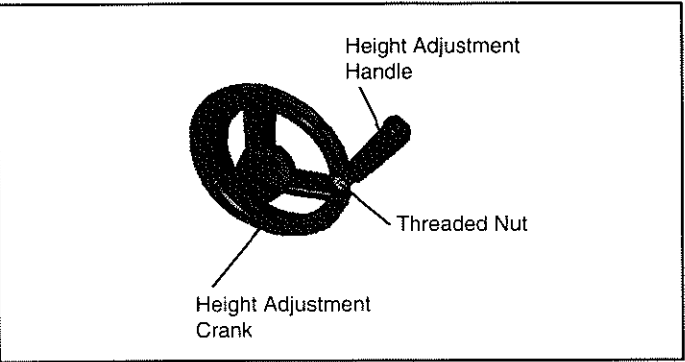

Figure 5
1. Screw the Height Adjustment Handle into the threaded nut in the Height Adjustment Crank using a slotted screwdriver until snug. (See Figure 5.)